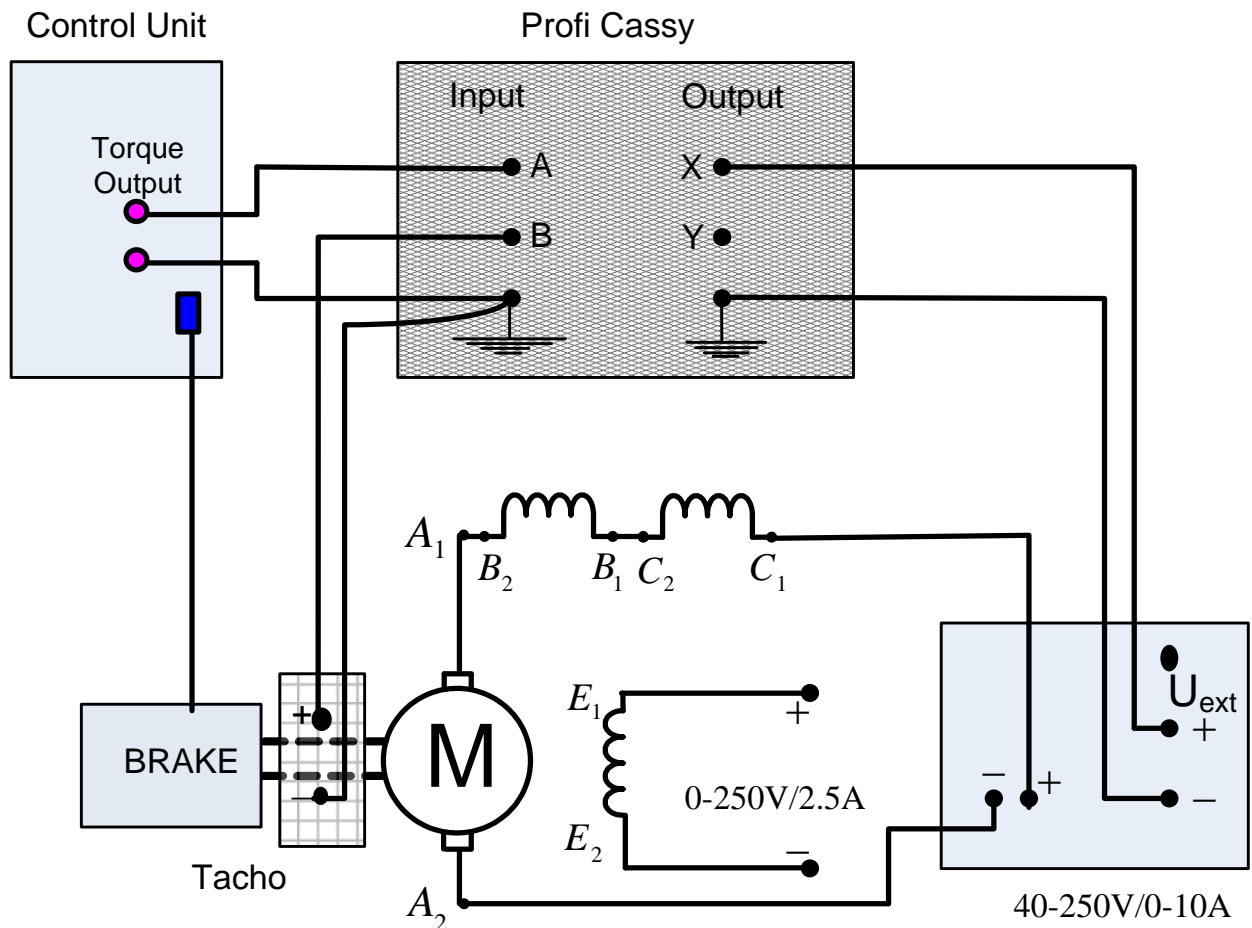

Fig. 2: Wiring diagram for implementation of a PI speed controller of separately excited DC motor
1. Connect the circuit as shown in Fig. 2.